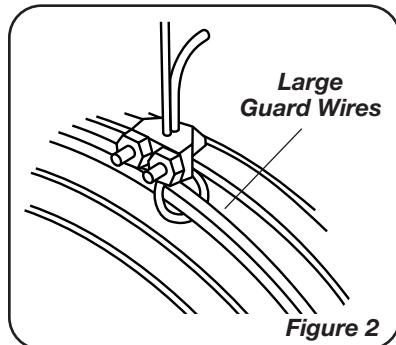

Figure 2
1. Loop one end of the Cable around the Large Diameter Wires of both the Front and Rear Circulator Guard (Figure 2).